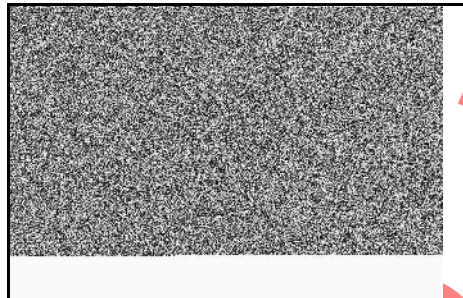

Figure 15
3. Remove muffler support screws (A, Figure 15).